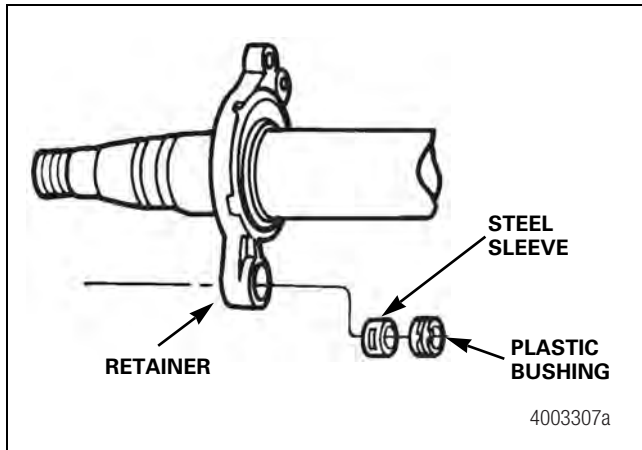

Figure 11.6
- A plastic sleeve bushing can be installed onto all three spider models. Note that a steel sleeve is pressed into the spider before this bushing is installed. Figure 11.6.